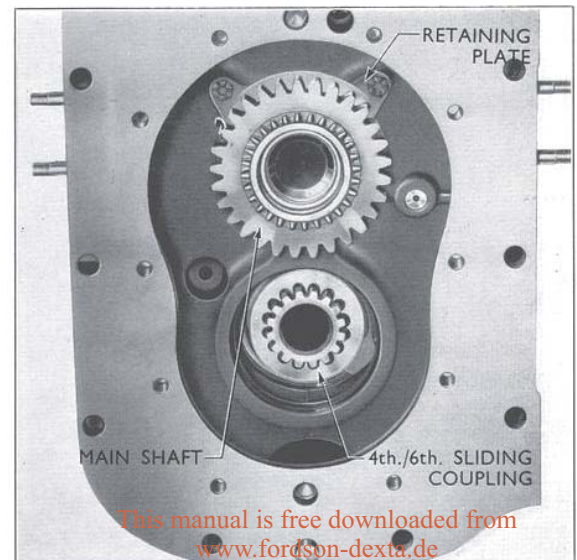

Fig. 22
2. Position the bearing retaining plate against the rear of the bearing and secure to the gearbox with two self-locking screws (see Fig. 22). Tighten the self-locking screws to 23 lb. ft. torque.